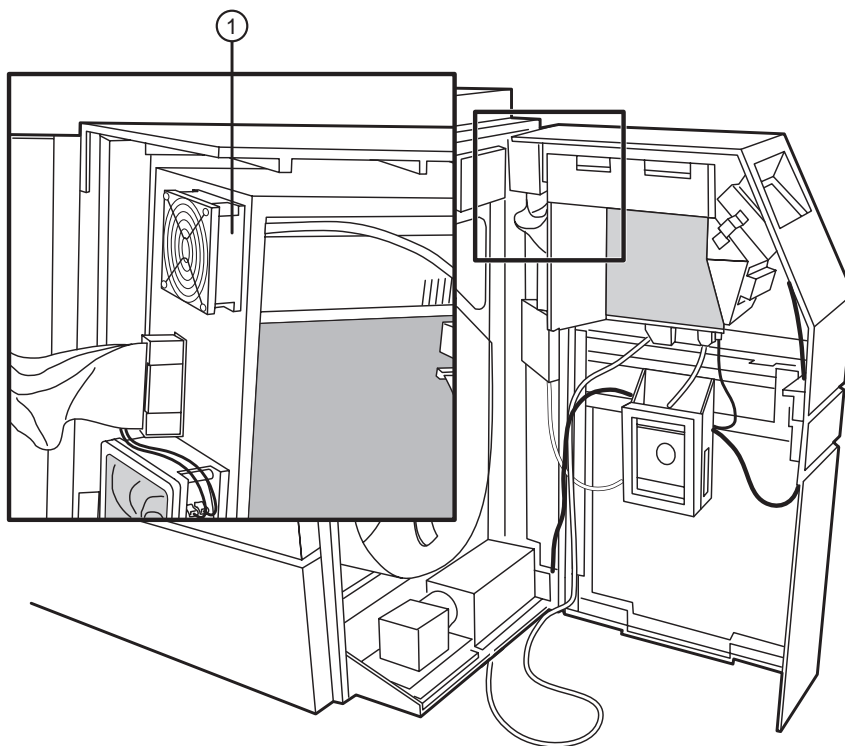

Figure 4-25 Exhaust fan location.
3. Disconnect the wire connector from the exhaust fan. Refer to Figure 4-25.